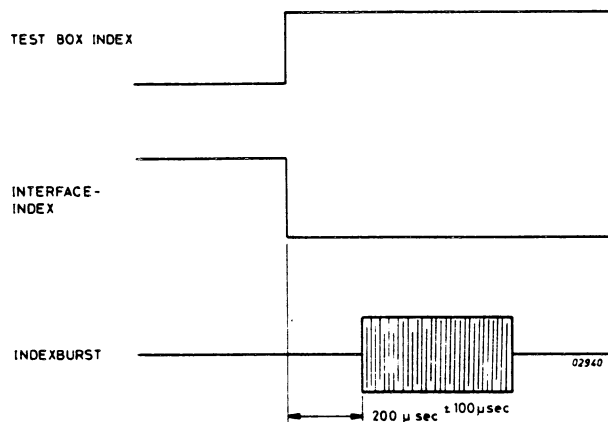

Figure 7.5 INDEX TO BURST CHECK
- d) Check distance between start of trace and start of burst is 200 μ secs \pm 100 μ secs (figure 7.5).